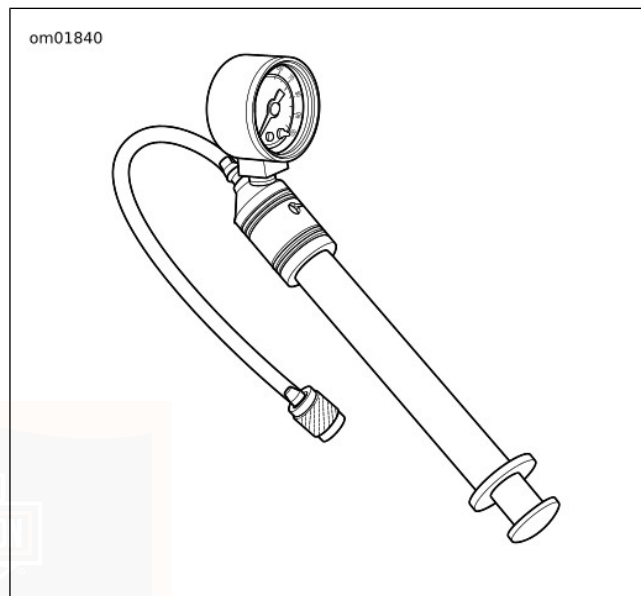

Figure 25. Air Suspension Pump and Gauge (HD-34633)
3. See Figure 25. Attach AIR SUSPENSION PUMP AND GAUGE (PART NUMBER: HD-34633) to the air valve. Fill or release air from the shock absorber to the pressure specified for your load. Refer to Table 17.